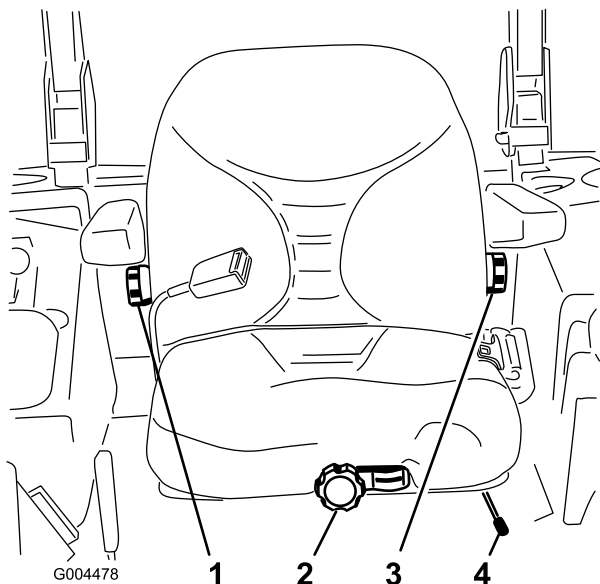

Figure 14
1. To adjust, move the lever sideways to unlock the seat (Figure 14).
To adjust it, turn the knob, under the left-side arm rest, in either direction to provide the best comfort (Figure 14).
Without sitting on the seat, turn the knob in front either direction to provide the best comfort (Figure 14).
To adjust it, turn the knob, under the right-side arm rest, in either direction to provide the best comfort (Figure 14).